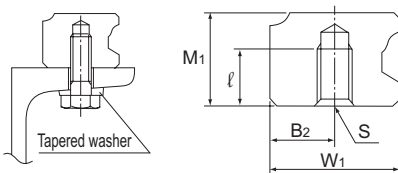

Fig.1
- (1) Determine the bolt length so that a clearance of 2 to 3 mm is secured between the bolt end and the bottom of the tap (effective tap depth).
- (2) As shown in Fig.1, a tapered washer is also available that allows GSR to be mounted on a section steel.
- (3) For model number coding, see B-146 to B-147.